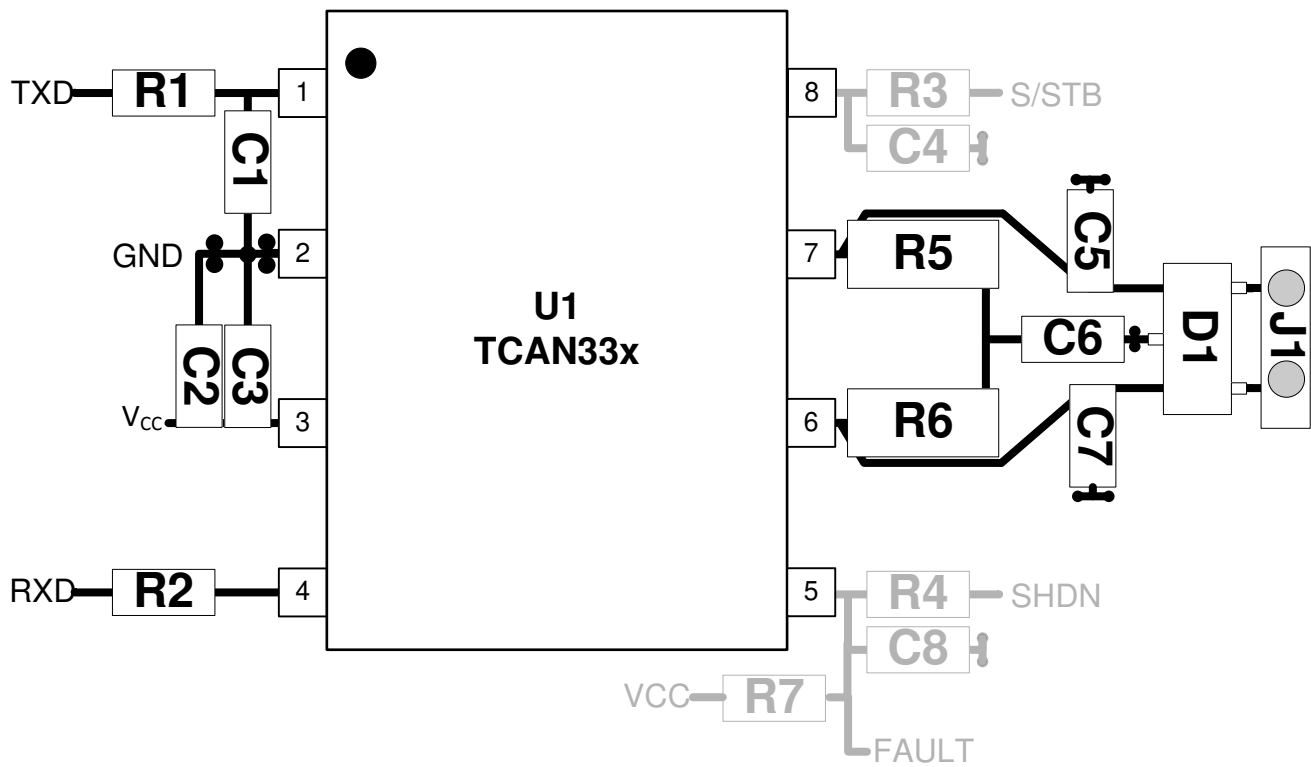

Figure 7-7. Layout Example
- Transient Protection on CANH and CANL: Transient Voltage Suppression (TVS) and capacitors (D1, C5 and C7 shown in Figure 7-7) can be used for additional system level protection. These devices must be placed as close to the connector as possible. This prevents the transient energy and noise from penetrating into other nets on the board.
- Bus Termination on CANH and CANL: Figure 7-7 shows split termination where the termination is split into two resistors, R5 and R6, with the center or split tap of the termination connected to ground through capacitor C6. Split termination provides common mode filtering for the bus. When termination is placed on the board instead of directly on the bus, care must be taken to ensure the terminating node is not removed from the bus, as this causes signal integrity issues if the bus is not properly terminated on both ends.